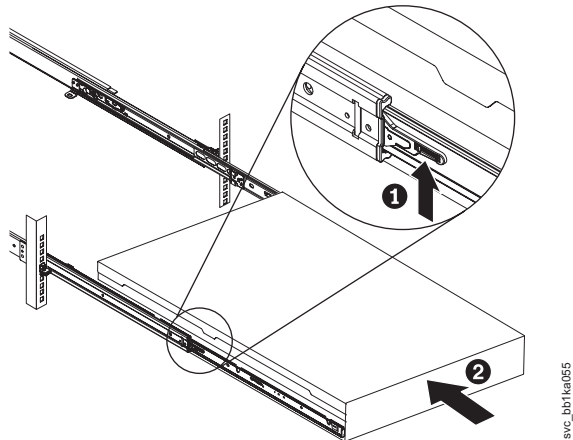

Figure 290. Raising the SAN Volume Controller 2145-CF8 or 2145-CG8 locking levers of the slide rails of the rack
18. Lift the locking levers (**1** in Figure 290) on the slide rails and push the server **2** all the way into the rack until it clicks into place.